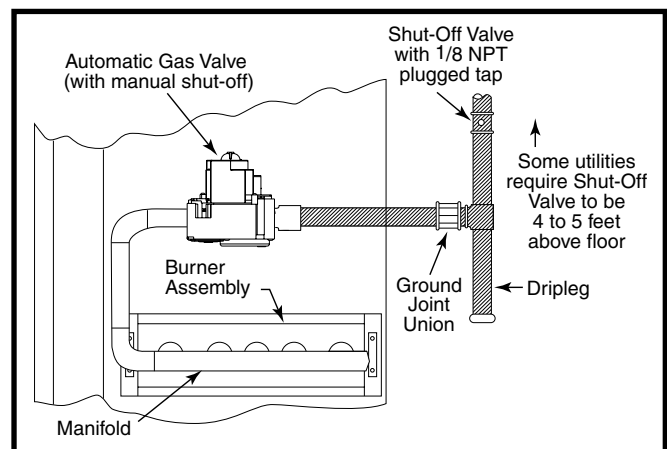

Figure 6. Typical Gas Hookup - Right Side Entry
- Some local codes require the installation of a manual main shut-off valve and ground joint union external to the unit. The shut-off valve should be readily accessible for service and/or emergency use. Consult the local utility or gas supplier for additional requirements regarding placement of the manual main gas shut-off. See Figure 6 \(page 16\).
- A drip leg should be installed in the vertical pipe run to the unit. See Figure 6.
This unit only has right side gas entry. When connecting the gas, provide clearance between the gas supply line and the entry hole in the unit's casing to avoid unwanted noise and/or damage to the unit. A typical gas service hookup is shown in Figure 6.